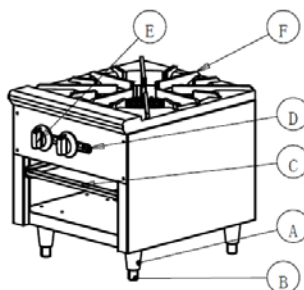

Figure 1. Features and Controls.
5. Install the four (4) legs (A) and feet (B) on the equipment. See Figure 1
2. Turn off all gas control knobs (E). See Figure 1.
4. The pilot burner must be lit at the end of the tube. Hold an ignition source through the pilot light hole (D) in the front panel at the pilot tube. When the flame is established remove ignition source.
1. Hold the leg (A) and rotate the adjustable feet (B) so the equipment is level. See Figure 1.
2. Check the drip tray(C) frequently.
3. To ignite the burners, depress and turn the gas control knob (E) to "High" Position.